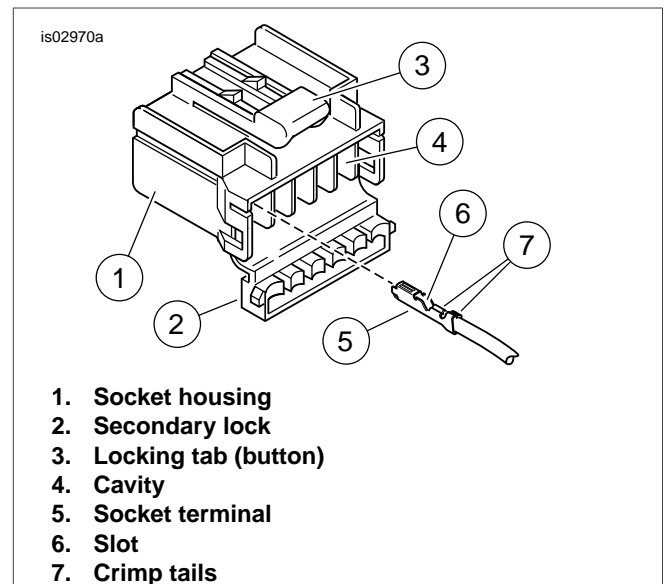

Figure 2. Socket Terminal Installation
- See Figure 2. On the secondary lock (2) side of the socket housing (1), position the socket terminal (5) with the slot (6) and crimp tails (7) facing up (in the same direction as the button (3) on the top of the socket housing).
- Insert the terminal into the correct cavity (4) until it snaps into place with an audible "click".